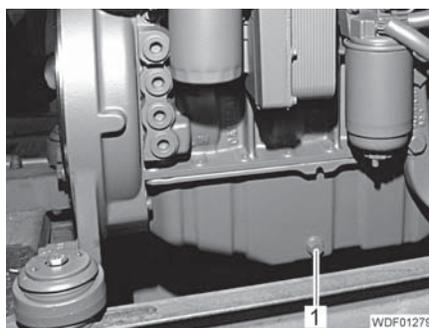

Fig. 33 Oil drainage screw
- Unscrew the oil drainage screw (Fig. 33,1).